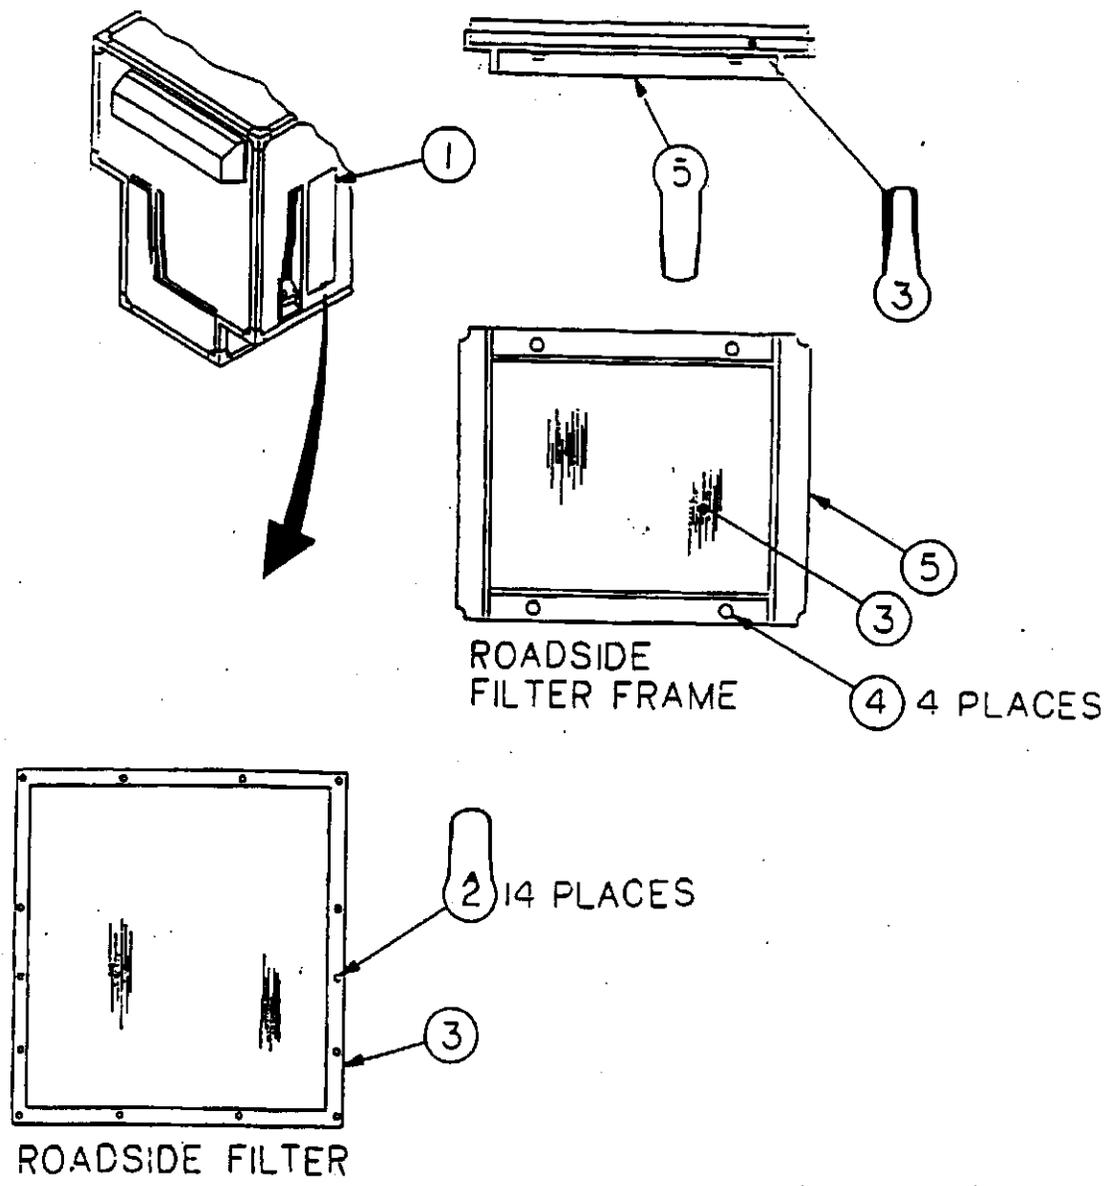
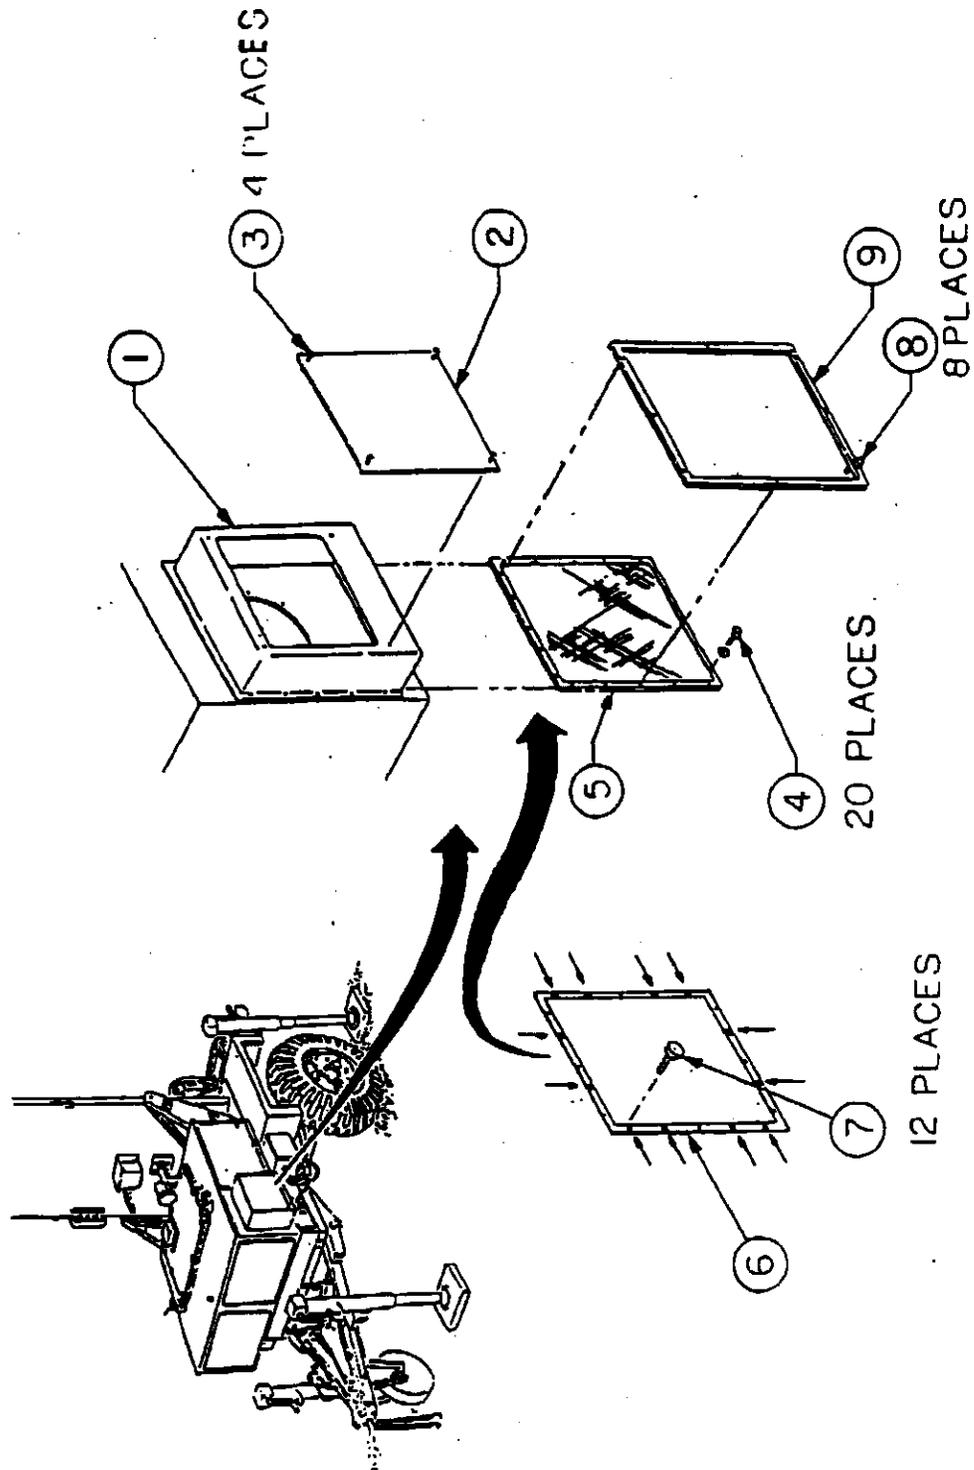

FIGURE 3. INSTALLATION OF ROADSIDE SIGNAL PROCESSOR AND FILTER FRAME
FIGURE 4. INSTALLATION OF TRAILER ROADSIDE EXHAUST AIR FILTER FRAME
- a. At the shelter curbside personnel air inlet door (1), release rim latches and open door.
- b. Remove fourteen capscrews, lock washers and flat washers (2) from air filter (3). Discard removed hardware.
- c. Install four screws (4), Item 1, into new filter frame (5), Item 3. Thread screws into frame until screws are captive.
- d. Install new filter frame (5) over air filter (3). Tighten four captive screws (4).
- e. Close air inlet door (1) and secure rim latches.
3. Figure 3. Shelter Roadside Signal Processor Air Filter Frame.
- a. At the shelter roadside signal processor air inlet door (1), release rim latches and open door.
1. Figure 4. Trailer Roadside Exhaust Air Filter Frame.
- a. At the trailer roadside exhaust air filter enclosure (1), remove access panel (2) by turning four captive screws (3).
- b. Remove twenty capscrews and flat washers (4) from air filter (5). Discard removed hardware. Remove air filter through bottom of filter enclosure (1).
- c. Replace air filter with inner exhaust filter retaining frame (6), Item 4. Secure filter frame with twelve capscrews (7), Item 7, at places indicated by arrows in Figure 4.
- d. Install eight screws (8), Item 5, into outer exhaust filter retaining frame (9), Item 6. Thread screws into frame until screws are captive.
- e. Install air filter (5) with outer exhaust filter retaining frame 9 attached, through bottom of filter enclosure (1). Tighten eight captive screws (8).
- Replace access panel (2) and tighten four captive screws (3).